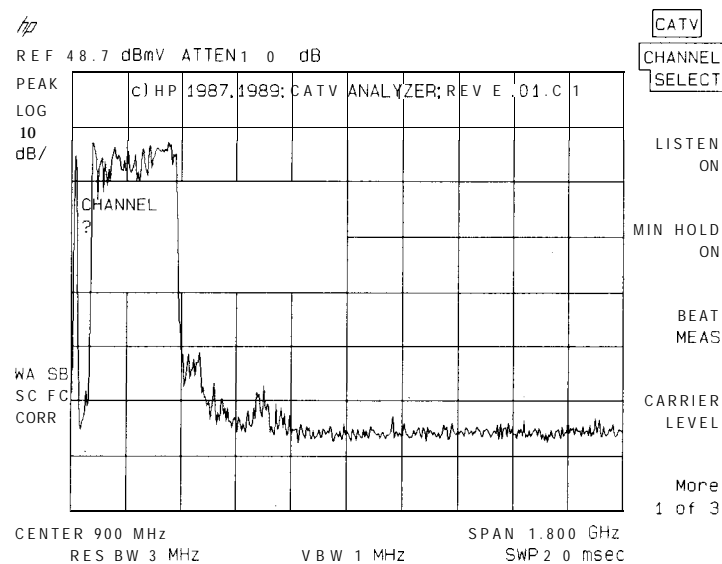

Figure 2-1.
1. The channel selection function is always active when you enter the CATV ANALYZER mode. CHANNEL ? appears in the active function block. See Figure 2-1.
To select a channel after the analyzer is preset or powered on, press **MODE** CATV ANALYZER, wait for the CHANNEL ? prompt, enter the channel number, then press **ENTER** (lower right-hand hardkey). See Figure 2-1.